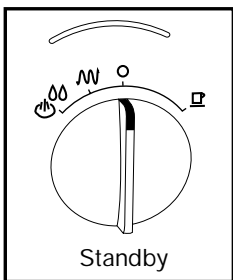
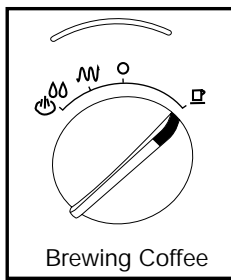

fig. 5
fig. 6
- k. Turn selector knob to right "brewing coffee" position (fig. 6)
- l. Allow 3-4 ounces of water to run through machine. Turn the selector knob left back to the "O"-position. (fig. 5).
- b. Insert and lock the filter holder without a sieve and place an empty cup underneath spout. Turn selector knob to the cup position (fig. 6). Let two or three ounces of water run into the cup. Turn the selector knob back to the "O"-position to stop the flow of water (fig. 5).